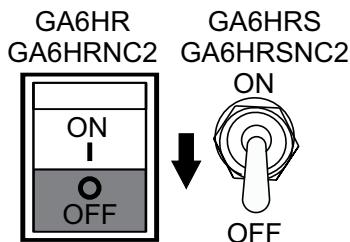

Figure 33. Operation Switch (OFF)
4. To shut-down the engine, place the generator's operation switch (Figure 33) in the **OFF** position).